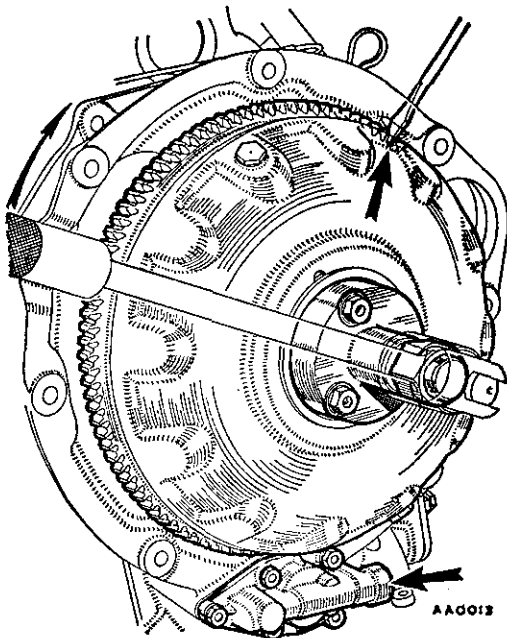
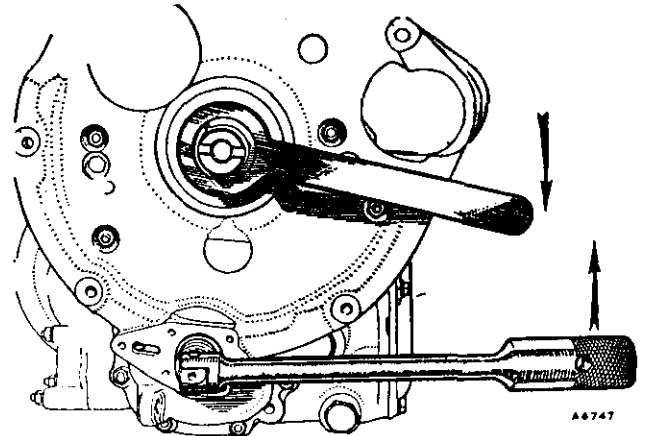

Fig. Aa.7
Fig. Aa.8
- (6) Knock back the locking tabs and remove three equally spaced set screws from the converter centre. Ensure that the slot in the end of the crankshaft is horizontal. Using Service tool 18G 1086 with the adaptor correctly positioned, remove the converter (Fig. Aa.7). Remove the Service tool and refit the three screws.
- (7) Remove the low-pressure valve from the converter housing.
- (8) Fit Service tool 18G 1088 onto the converter output gear and remove the input gear self-locking nut (Fig. Aa.8).
- (9) Remove the gear change bell-crank lever clevis pin and nut and lift off the bell-crank lever. Remove the bell-crank lever pivot.
- (10) Fit the nylon protector sleeve Service tool 18G 1098 over the converter output gear.
- (11) Remove the nuts and set screws securing the converter housing to the transmission and lift away the housing. Remove the converter oil outlet pipe from the housing.
- (12) Lever the main oil feed pipe from the transmission and oil pump.